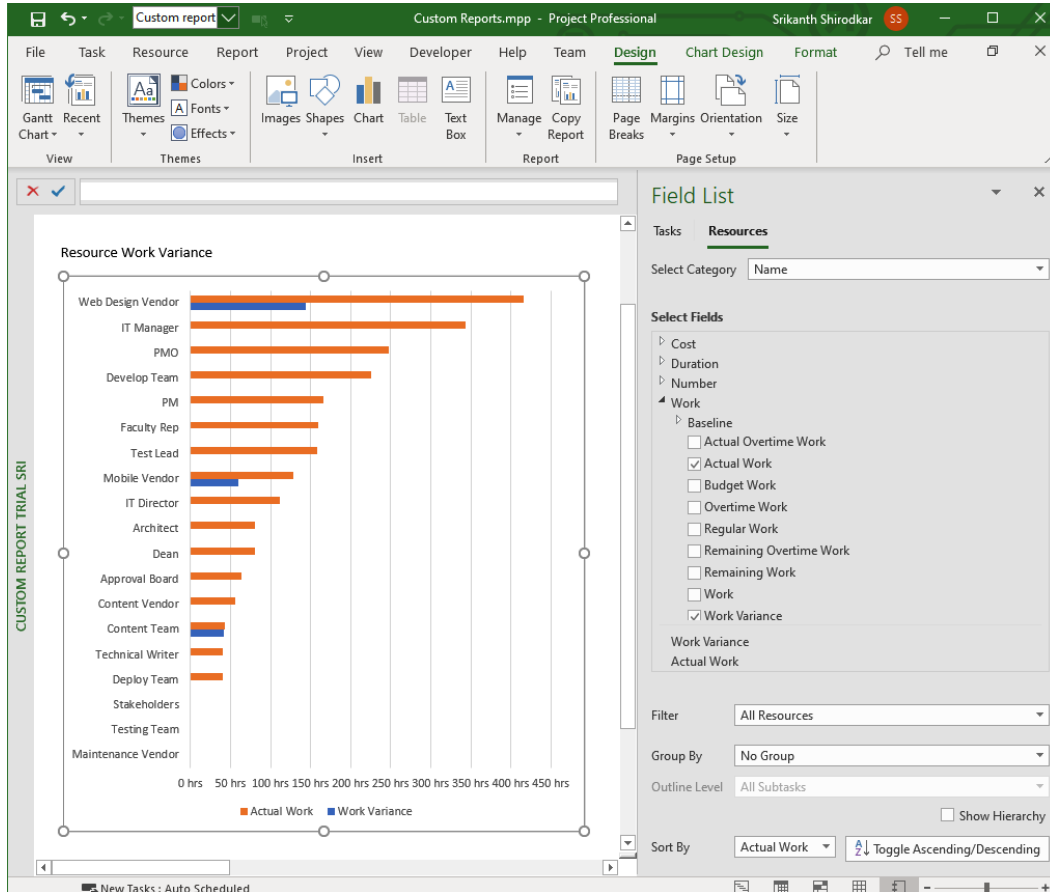

Figure 19.7 – Resource work variance graphical report
- When you create a graph for the first time from the **Insert Chart** dialog box, it will be prepopulated with two default fields—**Actual Work** and **Remaining Work**—from the **Tasks** tab. First, these default fields will have to be deselected. Proceed further to select the **Actual Work** and **Work Variance** fields from the **Resources** tab, as shown in *Figure 19.7*.